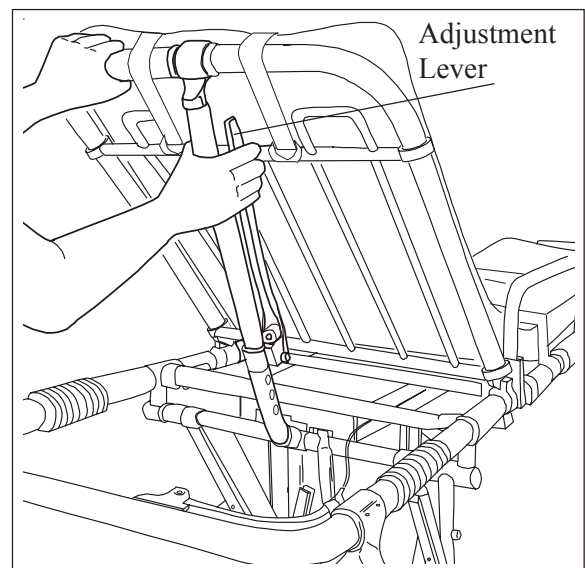

Figure 5 - Adjusting the Backrest
3. To adjust backrest from any raised position to any other position, support backrest frame with one hand and squeeze adjustment lever with other hand (Figure 5).